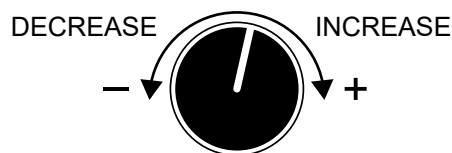

Figure 46. Voltage Regulator
- If the voltage is not within the specified tolerance, use the **voltage regulator** (Figure 46) to increase or decrease the desired voltage.